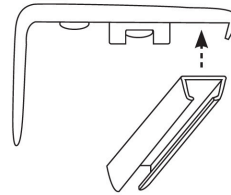

Figure 3
**3:** Angle the track into the brackets by first placing the back lip of the track under the plastic carrier and then pushing the front lip of the track into place under the front angle of the bracket. [Figure 3]